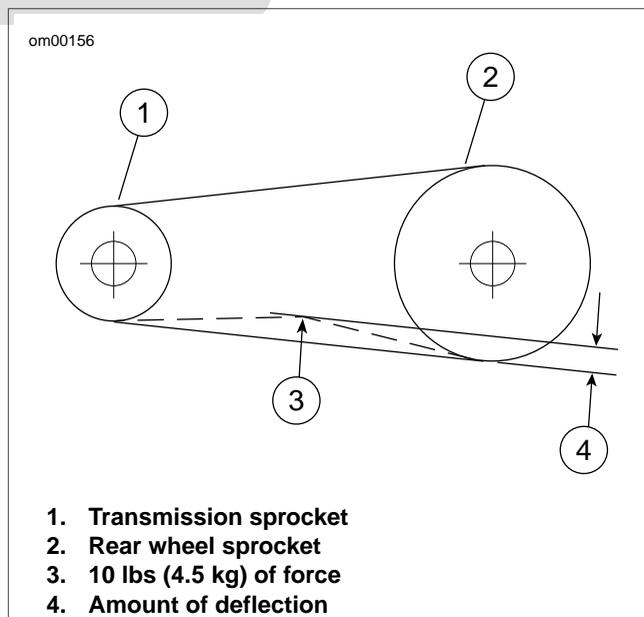

Figure 1-21. Checking Belt Deflection
- b. Fit cradle against bottom of belt half way between transmission and rear wheel compensator sprockets. See Figure 1-21.